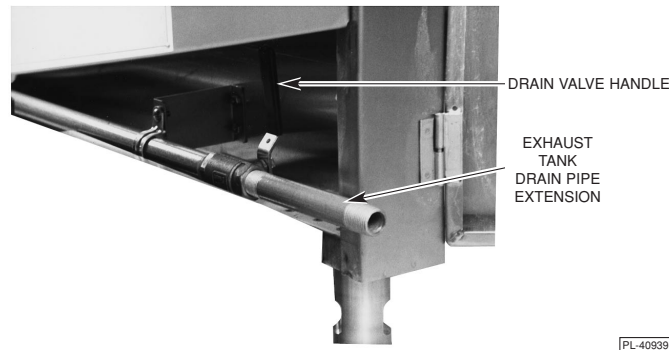

Fig. 15
1. Attach drain pipe extension (supplied) and drain exhaust tank by turning drain valve handle up (Fig. 15).